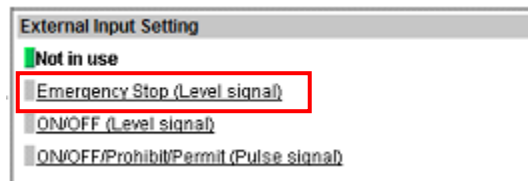

Figure 3. Initial Setting Browser
1. Select the “Emergency Stop (Level Signal)” on the “Initial Setting Browser Basic System” page for the Centralized Controller as shown in Figure 3.